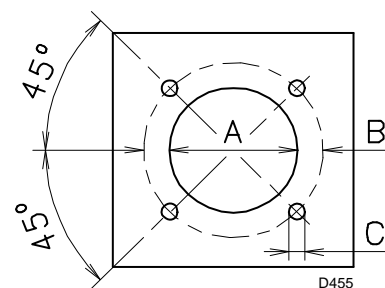

Fig. 11
Drill the combustion chamber locking plate as shown in Fig. 11. The position of the threaded holes can be marked using the thermal screen supplied with the burner.
- Place entire burner on the boiler hole (arranged previously, see Fig. 11), and fasten with the screws given as standard equipment.